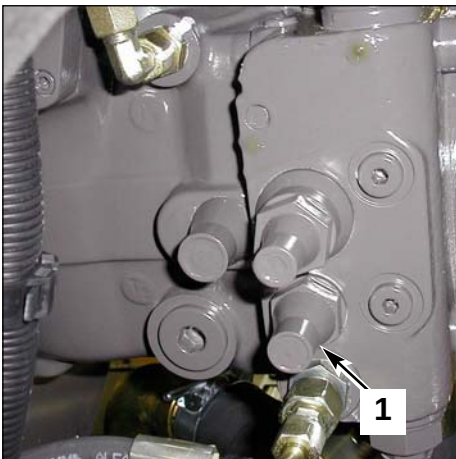

Fig. 2 Transfer movement pump
- 3- If the pressure is too low, turn the screw (1 fig. 2) clockwise in order to increase the pressure.